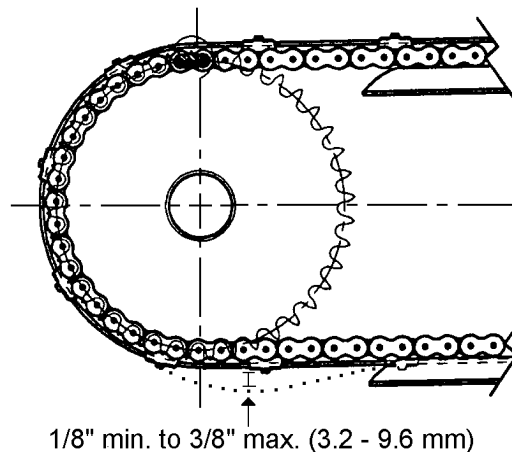

Figure 3
9. Inspect the chain tension after set up. To adjust the chain tension, move the outside radius end roll bearing assembly until the chain, as it leaves the discharge end sprocket, has a slight sag as it enters the entry end lower chain guide. The chain sag (slack) should be no less than 1/8" or more than 3/8" (3.2 – 9.6 mm). (Refer to Figure 3)